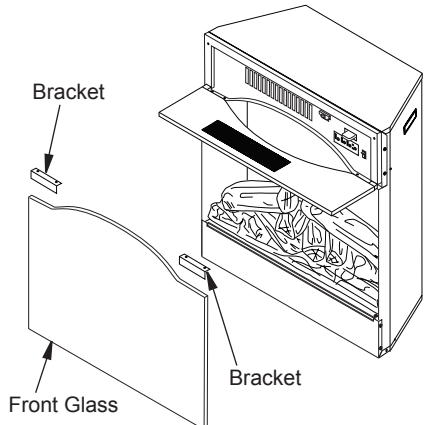

Figure 9 - Removing Brackets and Front Glass
4. Carefully remove front glass and brackets (see Figure 9).